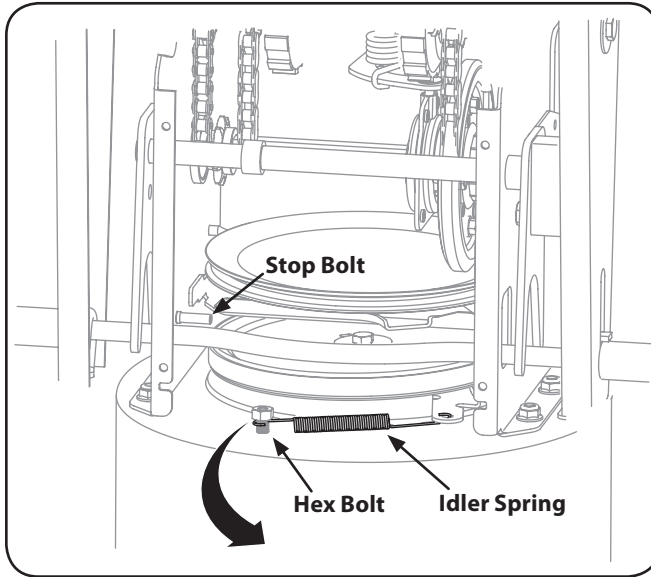

Figure 7-4
6. Unhook the idler spring from the hex bolt on the auger housing. See Figure 7-4.
6. Back out the stop bolt until the support bracket rests on the auger pulley. Refer to Figure 7-4.